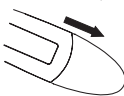

Figure 3
- Pull battery cover off as shown in Figure 3